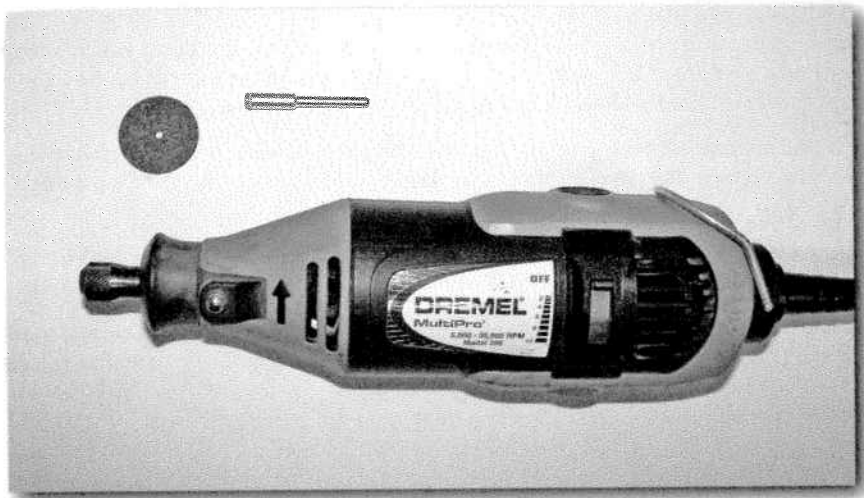

FIGURE 18-4: Dremel® tool with an appropriate cutting bit.
- A Dremel® tool (or similar rotary cutting tool or other tool capable of cutting metal) with a metal cutting bit and a sanding bit (see Figure 18-4), available from most hardware stores (~\$40).